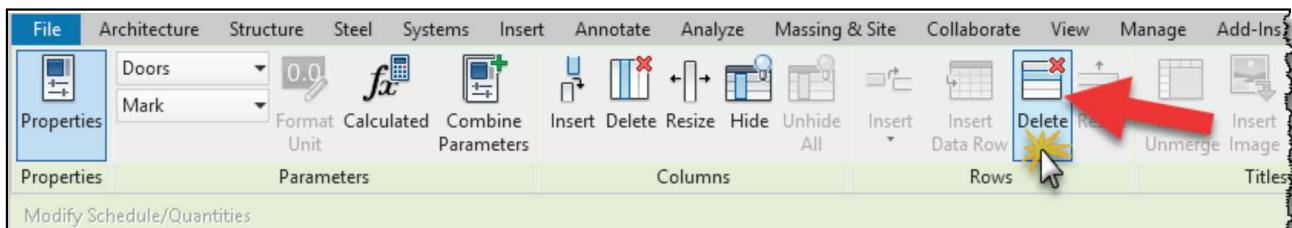

FIGURE 13-2.5 Ribbon panel for the door schedule view
10. Now click the **Delete [Rows]** button from the *Ribbon* (Figure 13-2.5).